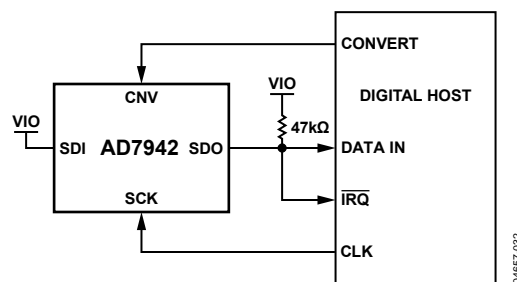
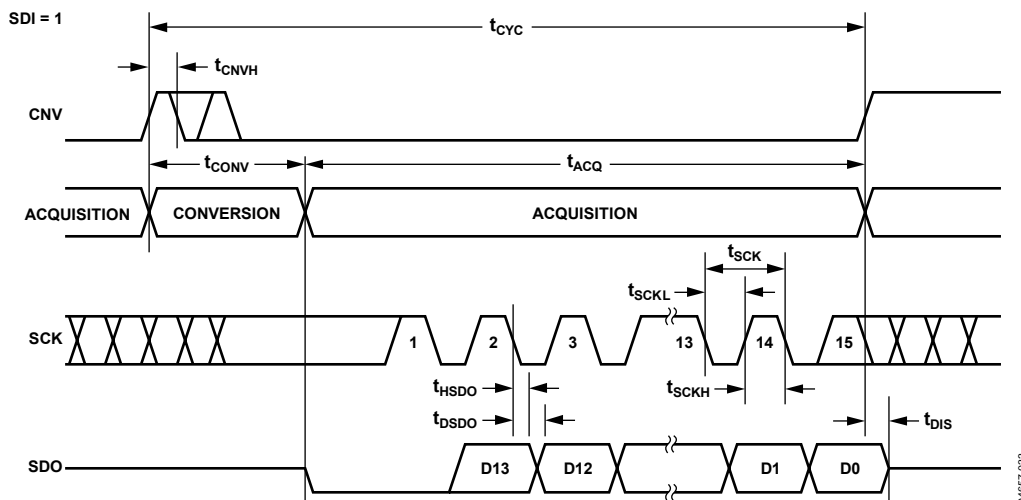
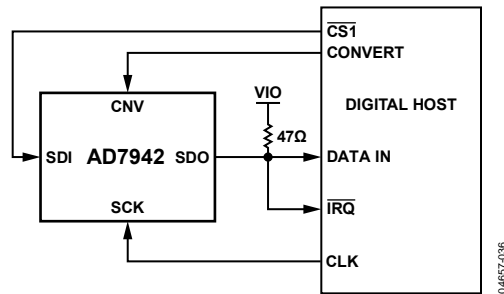
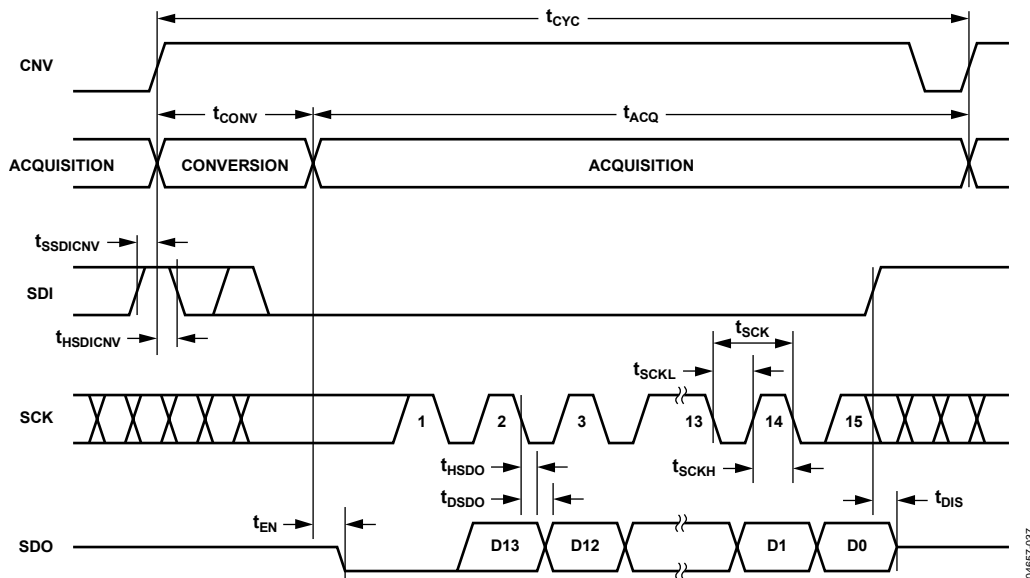

Figure 32. \overline{CS} Mode 3-Wire with Busy Indicator Connection Diagram (SDI High)
Figure 33. \overline{CS} Mode 3-Wire with Busy Indicator, Serial Interface Timing (SDI High)
Figure 36. \overline{CS} Mode 4-Wire with Busy Indicator Connection Diagram
Figure 37. \overline{CS} Mode 4-Wire with Busy Indicator, Serial Interface Timing
- In the \overline{CS} mode, if CNV or SDI is low when the ADC conversion ends (see Figure 33 and Figure 37).
This mode is usually used when a single AD7942 is connected to an SPI-compatible digital host with an interrupt input. The connection diagram is shown in Figure 32 and the corresponding timing diagram is shown in Figure 33.
This mode is usually used when a single AD7942 is connected to an SPI-compatible digital host with an interrupt input and it is desired to keep CNV (which is used to sample the analog input) independent of the signal used to select the data reading. This requirement is particularly important in applications where low jitter on CNV is desired. The connection diagram is shown in Figure 36 and the corresponding timing diagram is given in Figure 37.